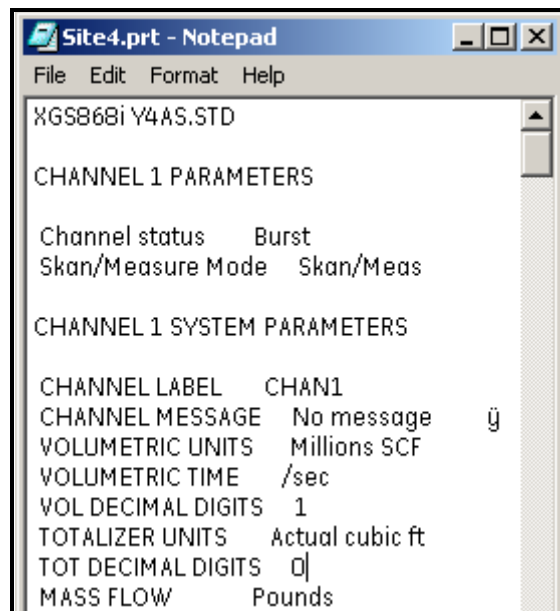

Figure C-20: Printout of Site File
3. The *Site File Selection* window (shown in Figure C-18 on page C-50) opens. Enter the desired site name (now with a .prt suffix) and click on [Save]. PanaView displays a text version of the site, as shown in Figure C-20 below.